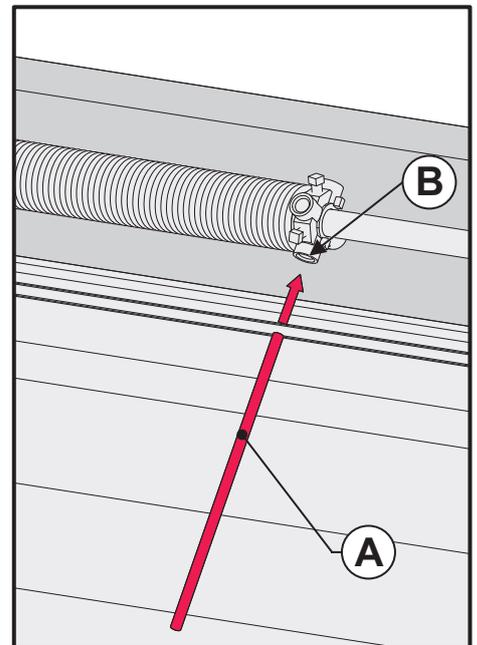

Figure 6a
- The number of turns can be counted drawing a line in the spring, which helps to count the number of turns on the spring with the diagonal lines on the springs, as shown in figure 6a and 6b.
- With the help of two tension sets or bars (A) proceed according to figure 6a, placing them in appropriate slots of the spring fitting (B). (Detail A).